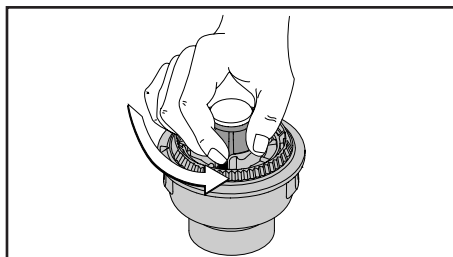

Fig. 16
1. If you need to remove the Bump Knob to clean the spool or remove jammed, excess line, hold the outer spool, and unscrew the Bump Knob counterclockwise (Fig. 16).